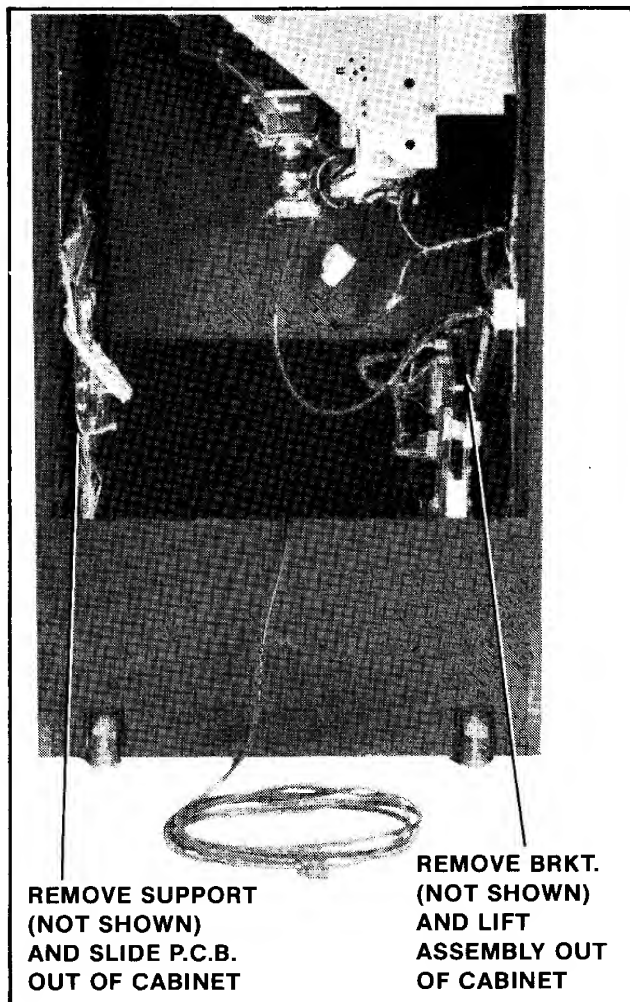

Figure 4-12 Replacing P.C.B.s — Upright
1. UPRIGHT MODEL: See Figure 4-12.
- ☐ Disconnect the power supply board from all its cabling, remove the P.C.B. supports indicated in Figure 4-12, and slide it out the back of the cabinet.